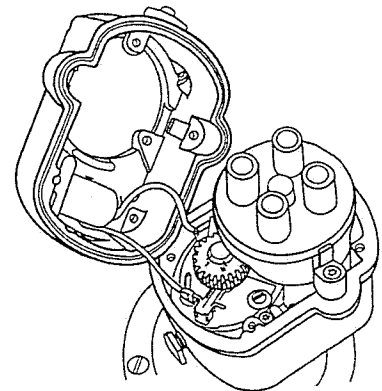

Figure 7.17
- A. Connect retard terminal wire to retard contact points. (See Figure 7.17).